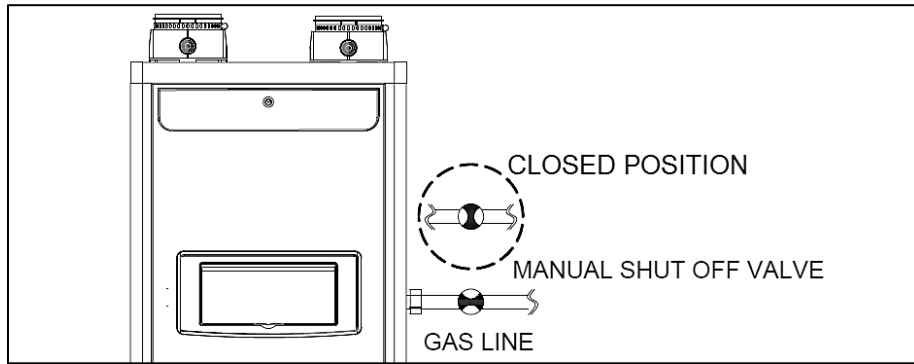

Figure 15 – Gas Line with Shut-Off Valve Detail
4. A manual gas shut-off valve should be installed in the gas supply line close to the appliance. See Figure 15 for detail.